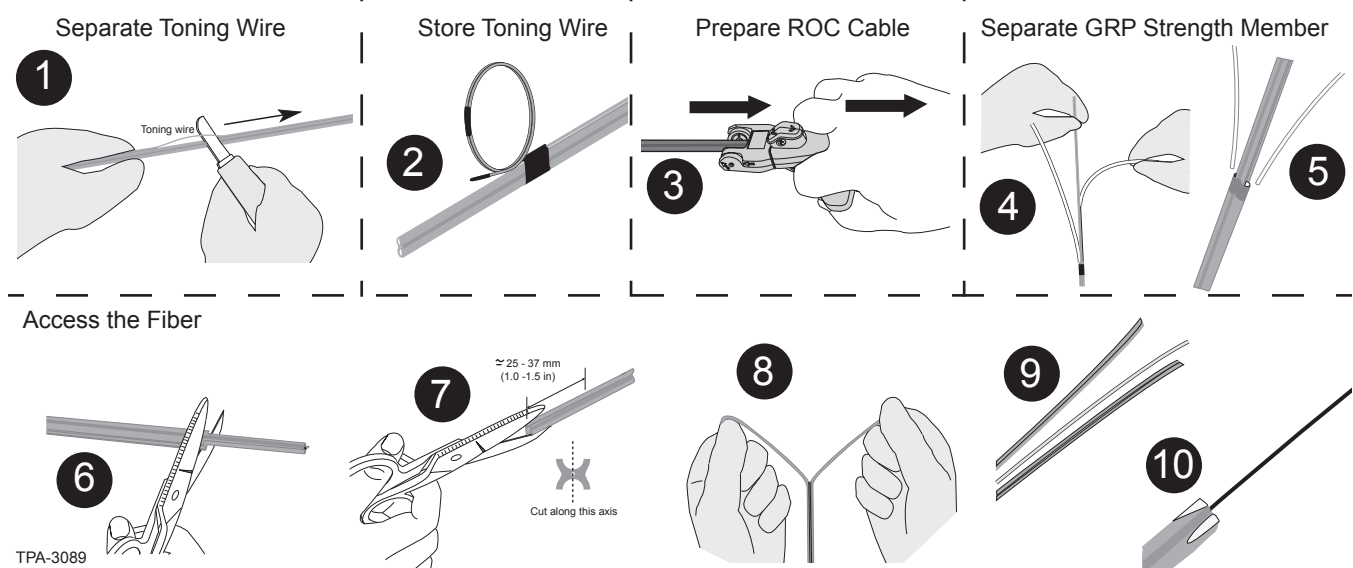

Figure 2 — Prepare Toneable ROC Cable
- Step 2:** Store toning wire with electrical tape as shown in Figure 2.